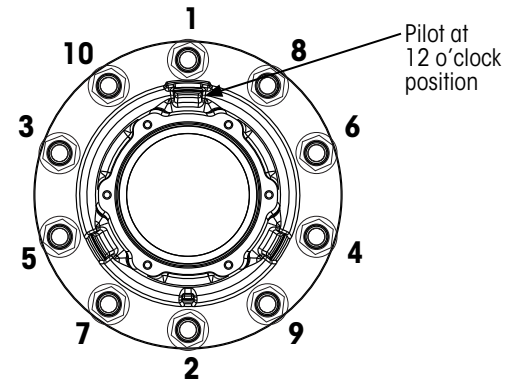

Figure 49: 10 stud tightening sequence
8. Using the applicable sequence (Figure 49 or 50), **tighten** all wheel nuts to 50 ft. lbs. (68 Nm) of torque.